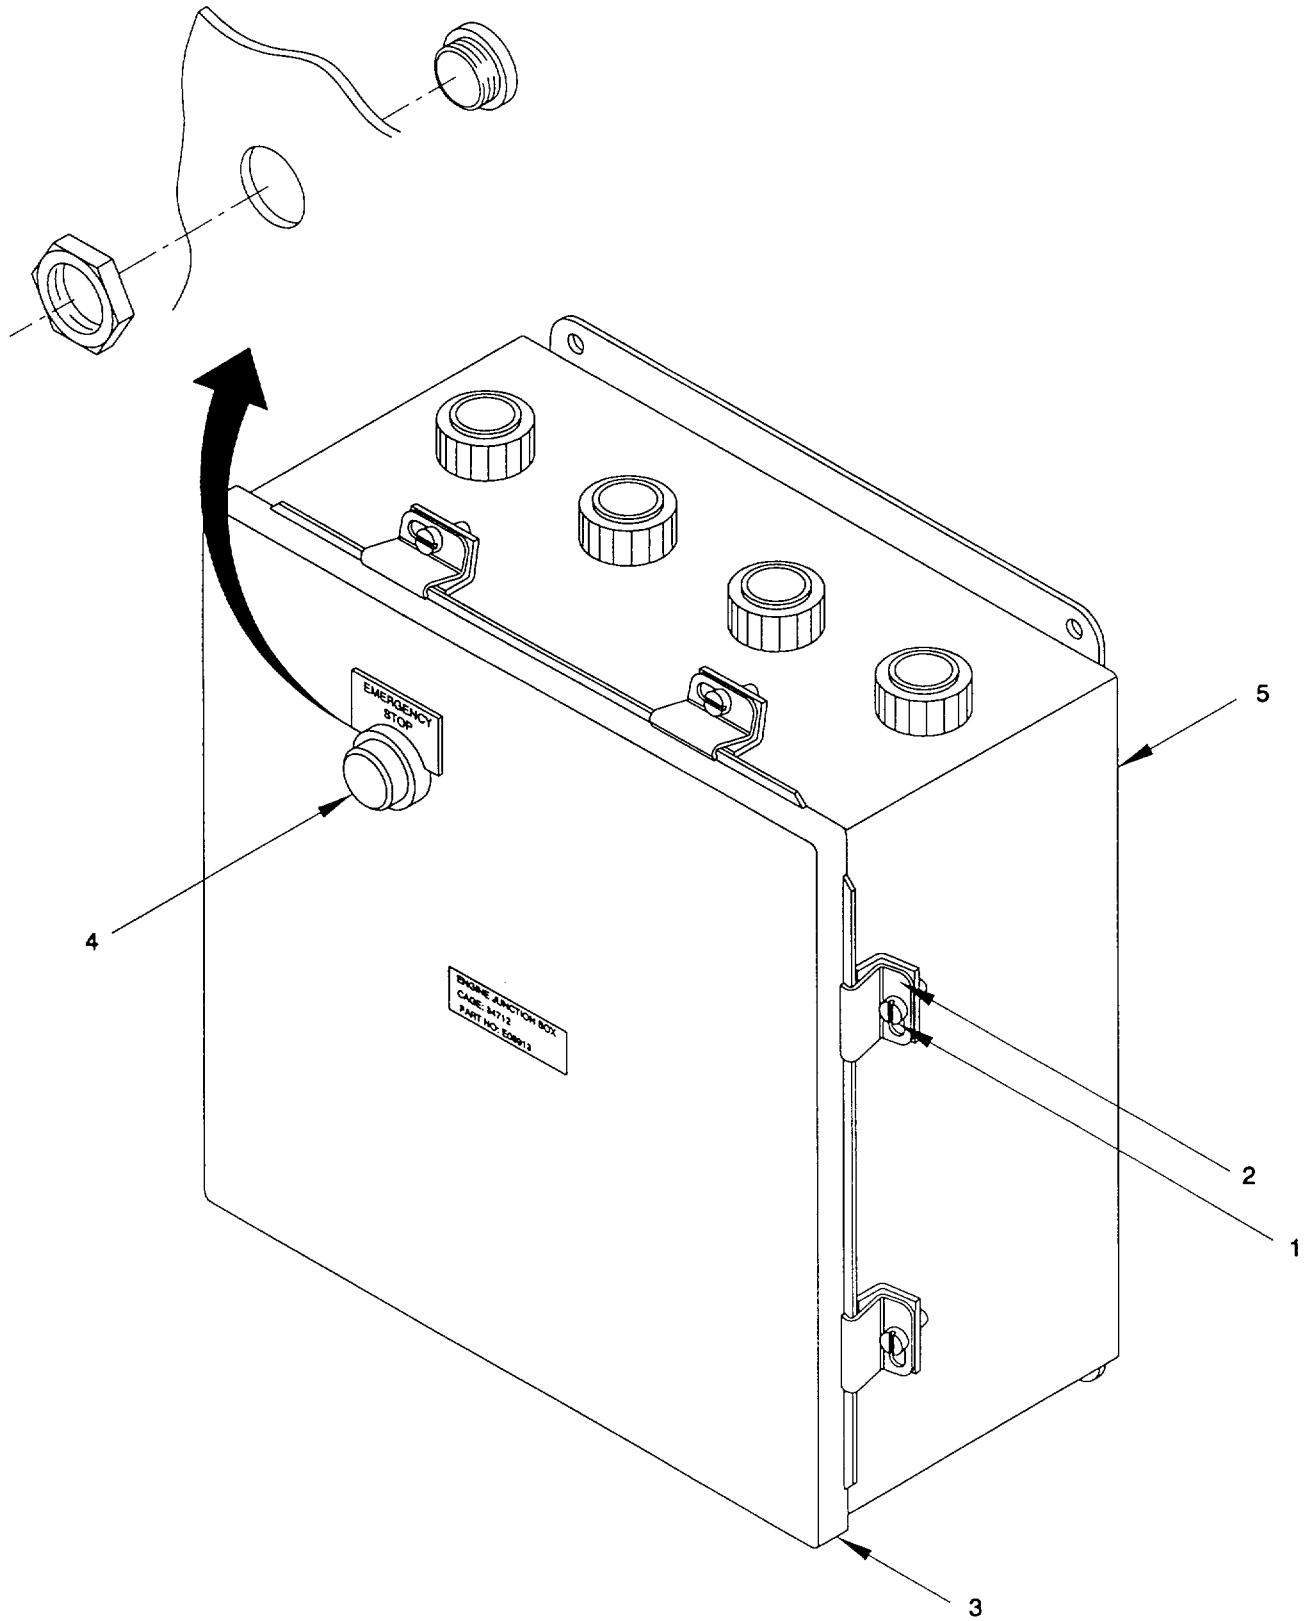

Figure 2-58. Pushbutton, Engine Junction Box "A4", Remove/Install
- a. *Remove.* (figure 2-58)
- (1) Remove six screws (1) and six clamps (2) securing cover (3) to enclosure (5). Swing cover (3) open.
- (2) Disconnect and tag electrical wiring to pushbutton (4). Refer to Appendix G.
- (3) Remove pushbutton (4) by unscrewing back from large nut on front side of panel.
- b. *Install.* (figure 2-58)
- (1) Apply antiseize compound to screws (1).
- (2) Install new pushbutton (4) on cover (3).
- (3) Reconnect electrical wiring, as tagged, to pushbutton (4). Refer to Appendix G. Use tie wraps to secure any loose wires.
- (4) Close cover (3) and secure with six clamps (2) and six screws (1).